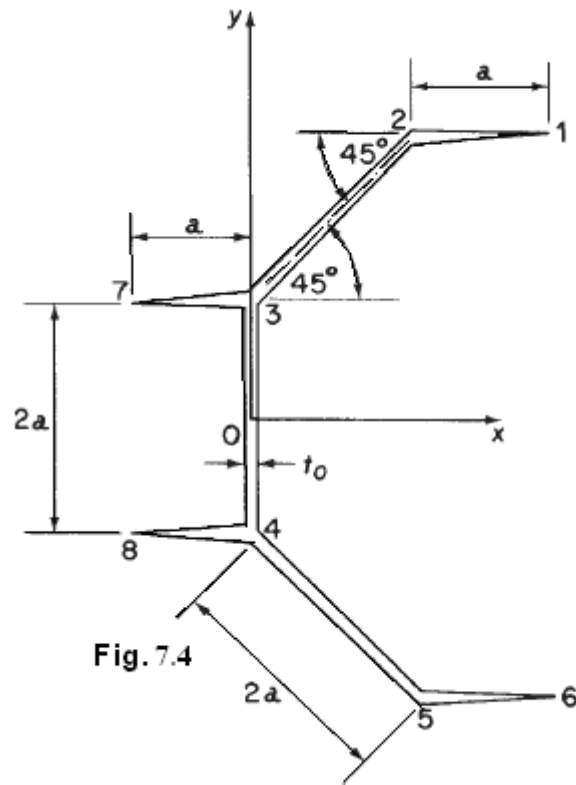

Figure 2:
- The thin-walled section shown in Figure 2 is symmetrical about the x axis. The thickness t_0 of the centre web 34 is constant, while the thickness of the other walls varies linearly from t_0 at points 3 and 4 to zero at the open ends 1, 6, 7 and 8. Determine the St. Venant torsion constant J for the section and also the maximum value of the shear stress due to a torque T . If the section is constrained to twist